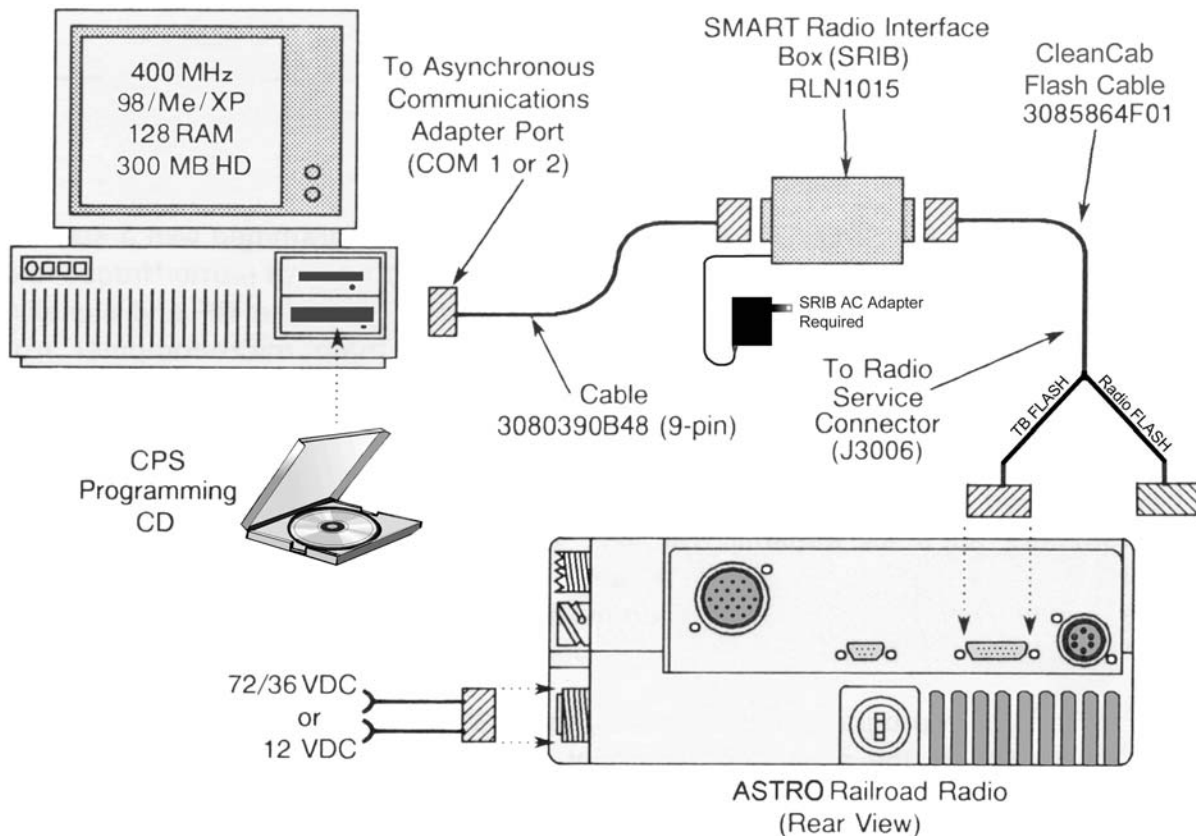

Figure 7-2 PC-SRIB-Radio Connection Diagram (FLASH upgrading Translator Board)
2. Connect the SRIB, PC or laptop computer, and station as shown in Figure 7-2. Splash will use Comm port 1 by default.